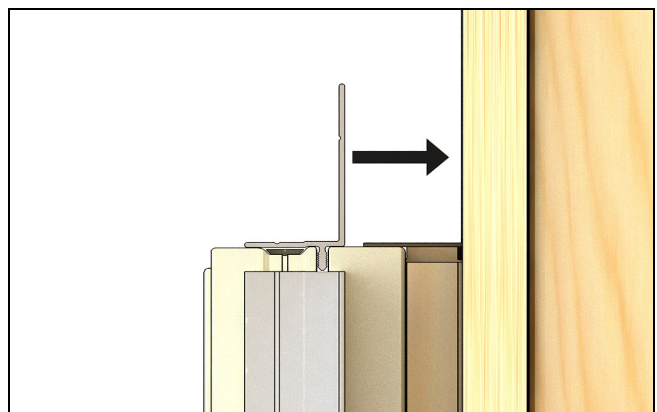

Figure 9
4. **On units with optional aluminum nail fin:** Manually fold out the nail fin until it is perpendicular to the frame. Take care during handling and installation not to damage the corner gasket. After the unit is secured in the opening, fold the supplied drip cap to an "L" shape as shown and install per unit flashing instructions. See Figure 9.